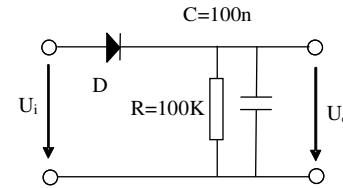

Fig. 3a: series peak detector
- a) Apply at the input of the circuit from figure 3a a sinusoidal signal of amplitude (peak value) 5V and frequency 10kHz, with null DC component.